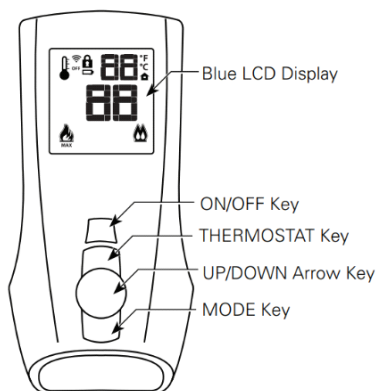
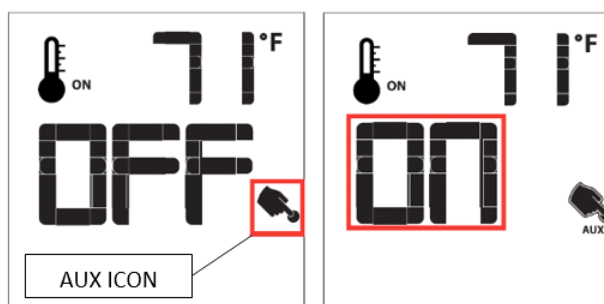
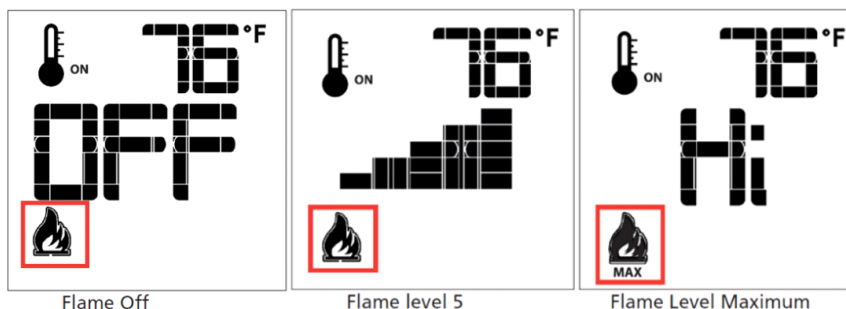
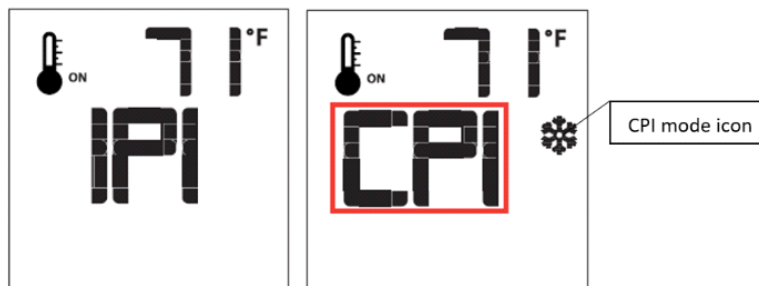

FIGURE 48
FIGURE 49
FIGURE 50
FIGURE 53
Press the **“ON/OFF”** key on the remote (**Figure 48**). A single beep from module will confirm command. Press the **“MODE”** Key until **AUX** icon is visible (**Figure 49**). Press the **“Up Arrow Key”** to turn the **AUX** to **ON** and activate the Meridian Control Panel to power on the fan and damper. Press the **“MODE”** Key until **Flame Level** screen appears (**Figure 50**) then press the **“ON/OFF”** key to turn off system. The fireplace system will now initialize once the remote **“ON”** key is pressed.
The system has six (6) flame levels. See (**Figure 50**) for an example. With the system on, and the flame level at the maximum in the appliance, pressing the **“Down Arrow Key”** once will reduce the flame height by one step until the flame is turned off. The **“Up-Arrow Key”** will increase the flame height each time it is pressed. If the **“Up Arrow Key”** is pressed while the system is on, but the flame is off, the flame will come on in the high position (**Figure 50**). A single “beep” will confirm reception of the command.
With the system in the “OFF” position, press the “**Thermostat**” Key and the “**Mode**” Key at the same time (Figure 48). Look at the LCD screen on the Remote to verify that a °C or °F is visible to the right of the Room Temperature display (Figure 51).
With the system in “**OFF**” position press the “**Mode**” Key (Figure 48) to index to the **CPI** mode icon. Pressing the “**UP Arrow Key**” will return to **IPI**. A single “beep” will confirm the reception of the command (Figure 53). Remote default setting is set to **IPI**.